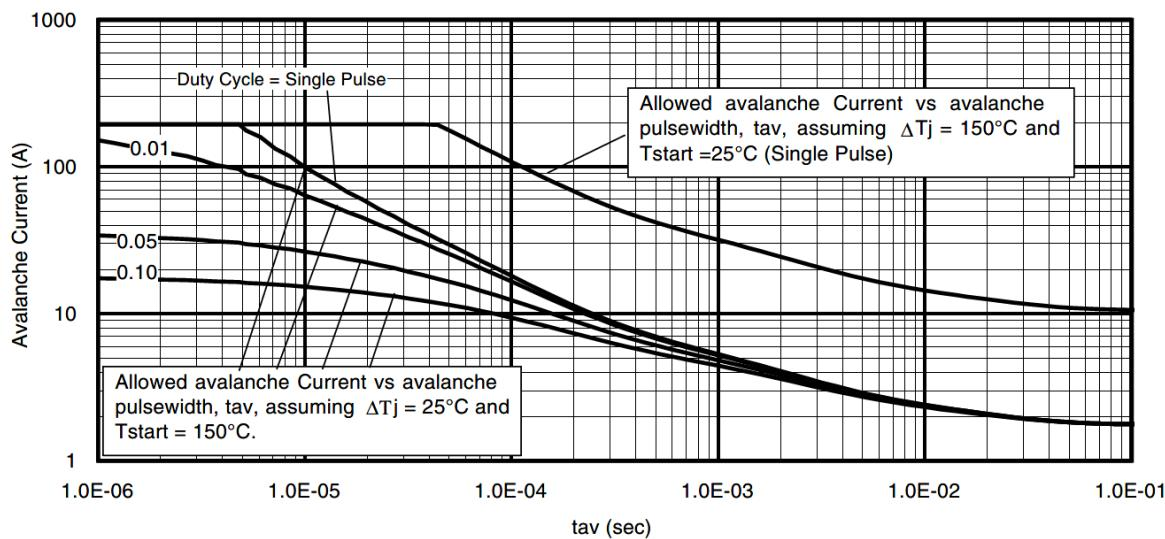

Fig 14. Typical Avalanche Current vs. Pulsewidth
Notes on Repetitive Avalanche Curves , Figures 14, 15: (For further info, see AN-1005 at www.irf.com)
7. ΔT = Allowable rise in junction temperature, not to exceed T_{jmax} (assumed as $25^{\circ}C$ in Figure 14, 15).